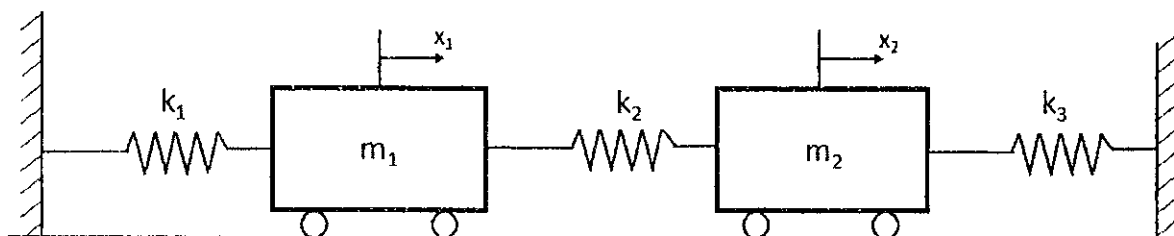

Figure QB1
Figure QB1 shows a vibrating system consist of two masses m_1 and m_2 . This represent a simple multi degree of freedom vibrating system. Such systems can be analyzed using Newton's Laws or using Lagrange Formulation. Lagrange formulation is sometimes called as the energy method.
- Write the equations for total potential energy (U) and for total kinetic energy (T) of the system given in Figure QB1.